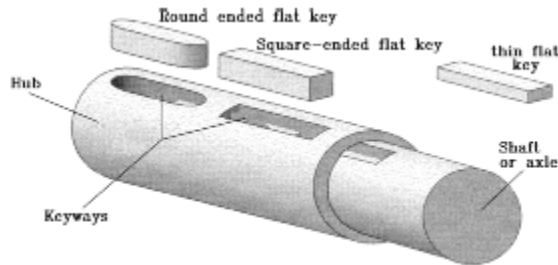

Figure 1-15
- parallel (or flat) keys (Fig. 1-15);